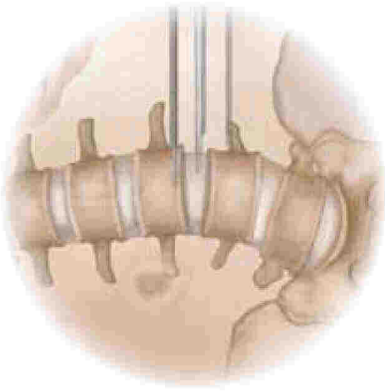

Figure 27
**Step 4** The annulus is then incised and an annulotomy at least 18mm in length is created using the Bayoneted Knife (Figures 27 and 28).